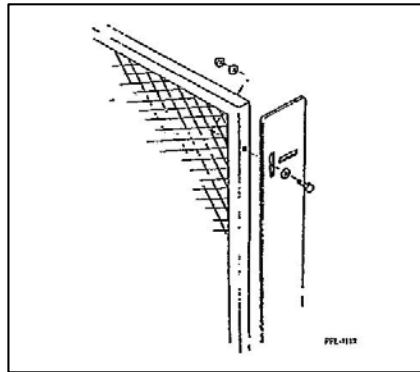

Figure 4
5. Filler panels are used to fill a gap of less than 6". **See Figure 4.**